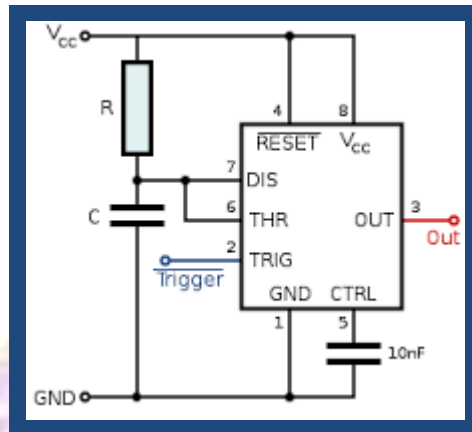
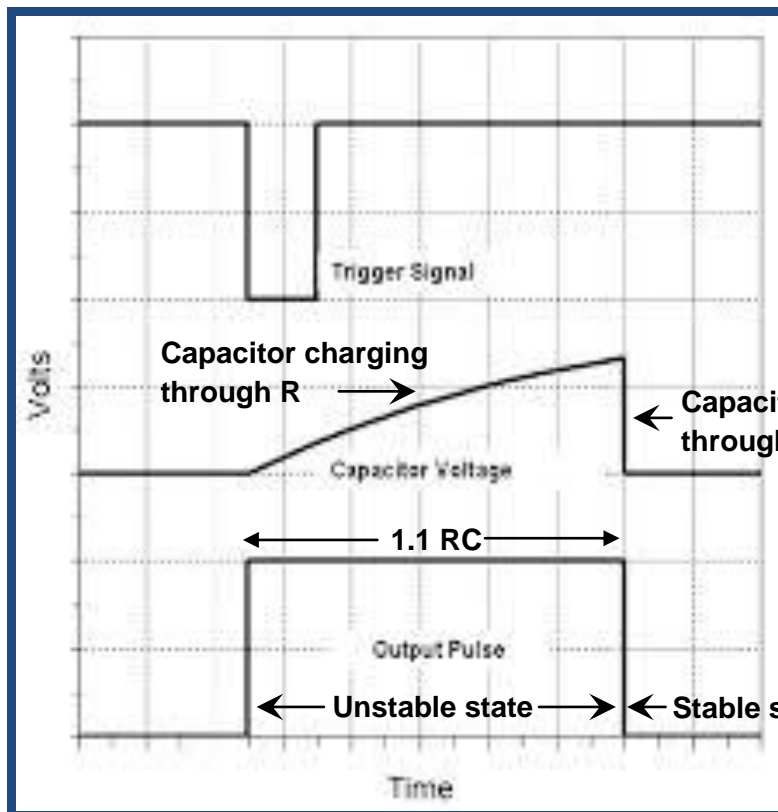

Figure 8: 555 timer IC configured in monostable mode
Figure 9: Typical output characteristics of the 555 timer IC in monostable configuration
Figure 8 shows the 555 timer IC configured in monostable or single shot mode. It remains in its default low output state (stable state) until it is triggered. When a negative trigger (a negative going pulse) is applied to the TRIGGER (Pin # 2) of 555 Timer, the lower comparator (COMP 2) output goes HIGH and output of upper comparator (COMP1) goes LOW. HIGH output of the lower comparator makes the S input of the RS flip flop HIGH and R input LOW (since upper comparator output is R input). This makes the RS flip flop output (Q) HIGH and its complement output Q' LOW. Since Q' is connected to the base of the NPN BJT hence the discharge transistor turns OFF and the timing capacitor starts charging to Vcc (DC power supply) via the resistor R. It is assumed that the initial voltage on the timing capacitor is zero. After the negative pulse (trigger) which is momentary output of lower comparator (COMP 2) reverts to its LOW value and the upper comparator also remains LOW. This condition ensures that both the R and S inputs of the RS flip flop get fixed to LOW values and hence output does NOT change (Truth table of RS flip flop). The typical output characteristics of the 555 timer IC in monostable configuration are shown in Figure 9.
The time (t_p) during which the output of a monostable 555 timer remains high as shown in Figure 8 is given by